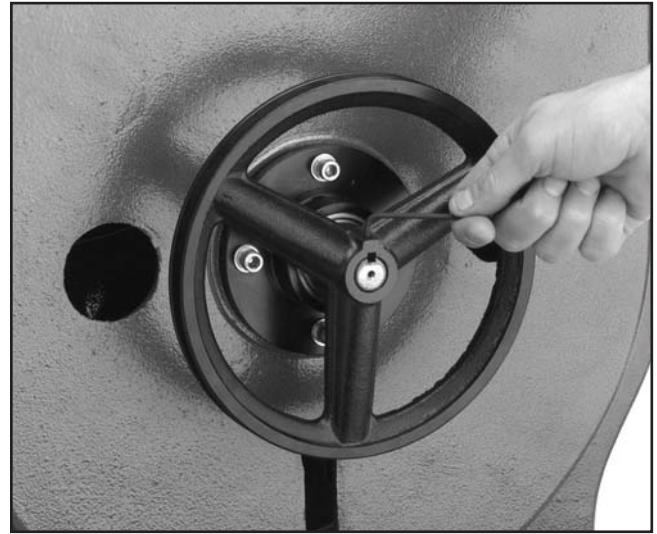

Figure 13. Securing wheel pulley to shaft.
4. Insert one of the $\frac{1}{4}$ "-20 x $\frac{1}{4}$ " setscrews into the wheel pulley and tighten to the shaft as shown in **Figure 13**.